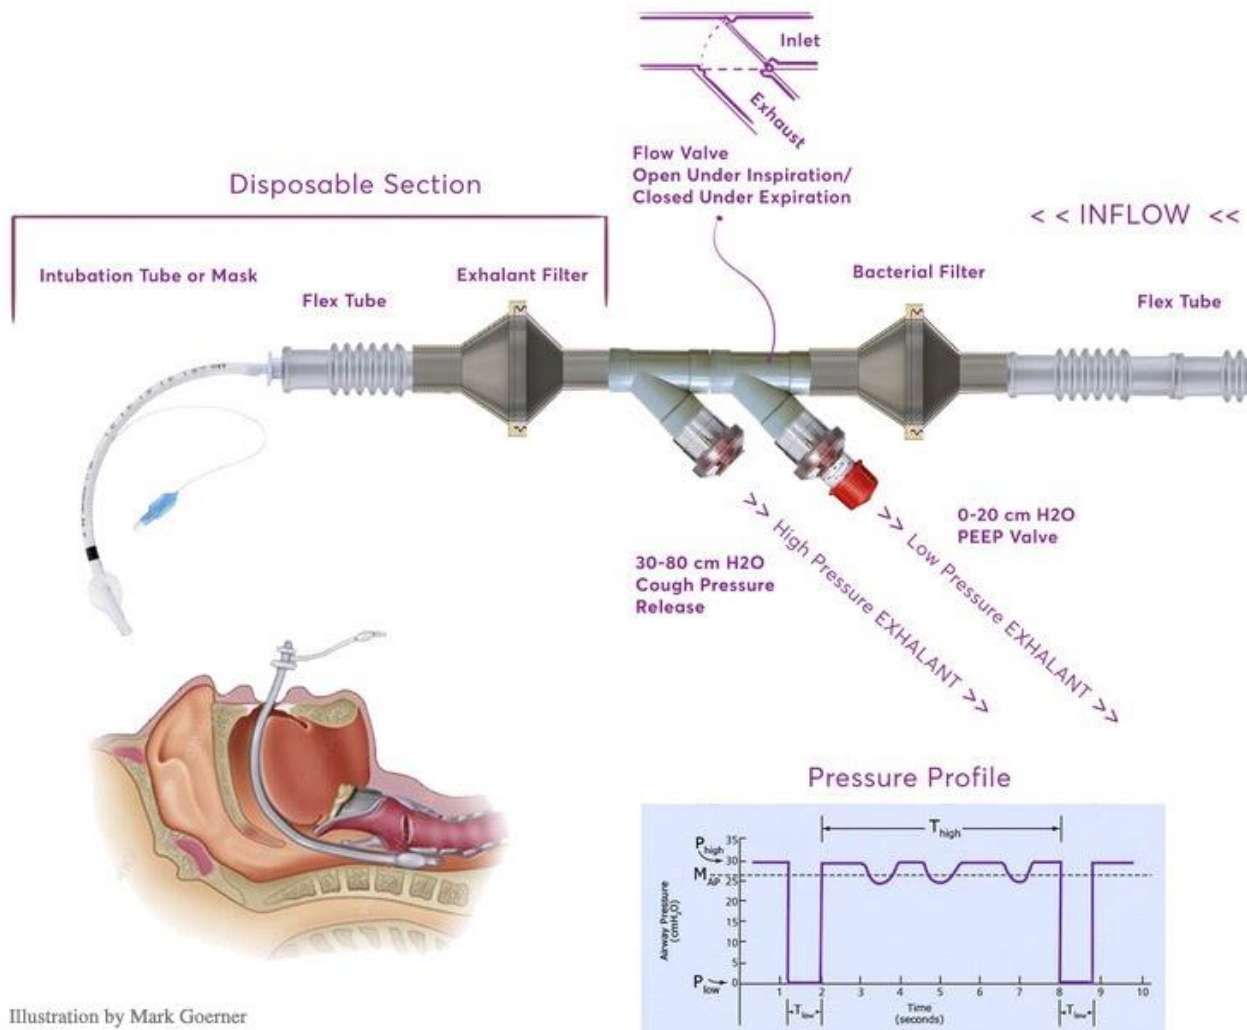

Figure 1. Ventilator reference schematic
- **Pressure and Timing** The primary measurement will be the pressure and timing profile shown in the light purple graph titled “Pressure Profile” (Fig. 1). All these recorded pressure and timing values are critical for ventilator validation. The pressure and timing measures can be performed at the point (volume) that connects between the Cough Pressure Release valve and Exhalant Filter. However, these measurements can be performed anywhere in the patient breathing circuit.